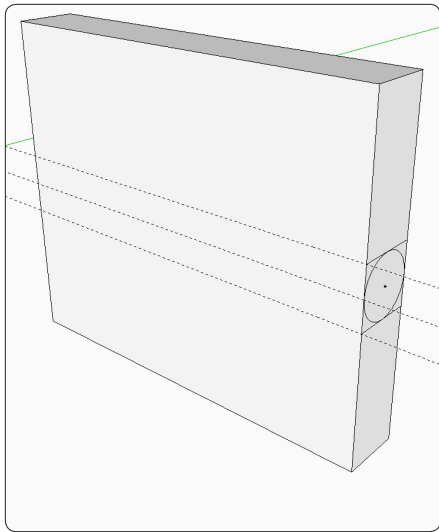

Figure 103. Draw a face the size of the fully opened hinge, make it as thick as two leaves, and draw the diameter of the knuckle.
Step 1 Draw a face the same size as the fully opened hinge. Give the hinge its thickness (twice the thickness of a single leaf). Place guide lines to locate the center of rotation and knuckle. Then draw lines and a circle to outline the knuckle (Figure 103).